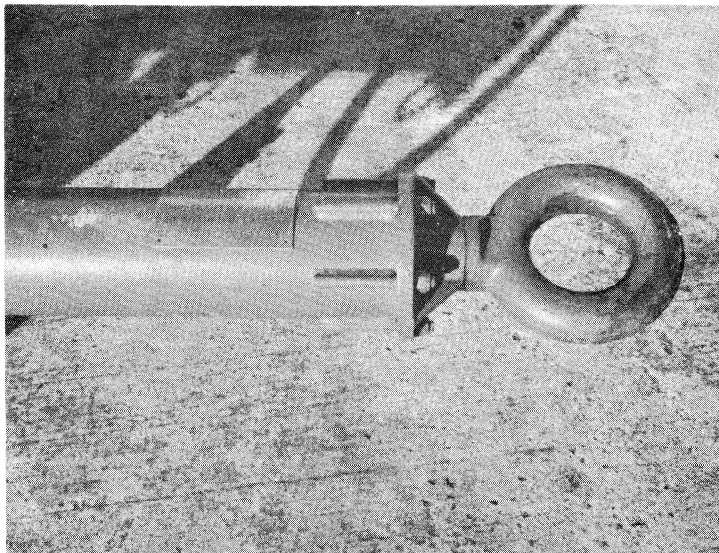

FIG 1 -- LOCATION OF INSTRUCTION PLATE
3. **Fitting.** To fit the plate to the drawbar in the position indicated by Fig 1, proceed as follows: